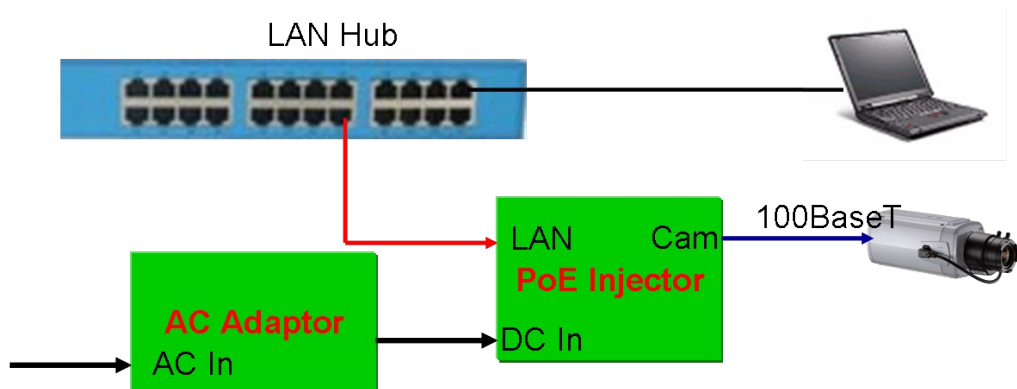

Figure 2-4. Connecting Network camera and PC using PoE Injector
- 1) If you have power adaptor and PoE injector, connect the network camera and PC as illustrated in Figure 2.4. Both power and network connection is made with a single LAN cable.